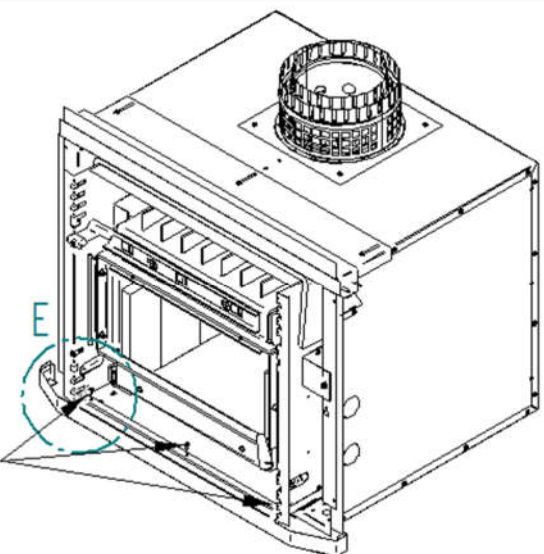

Fig. 20 – Additional Fascia Bottom Piece for ZC
30. Fit the additional bottom piece that comes with the ZC box using three 8G x $\frac{1}{2}$ " self-tapping screws. Refer Fig. 20